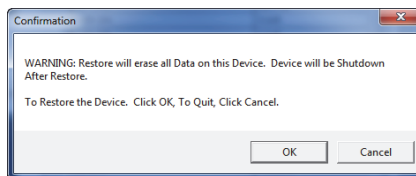

Figure 7-30 The Confirmation dialog box to confirm the restore start
4. When the **Confirmation** dialog box appears (see Figure 7-30 on page 212), click **OK** to start the restore process.